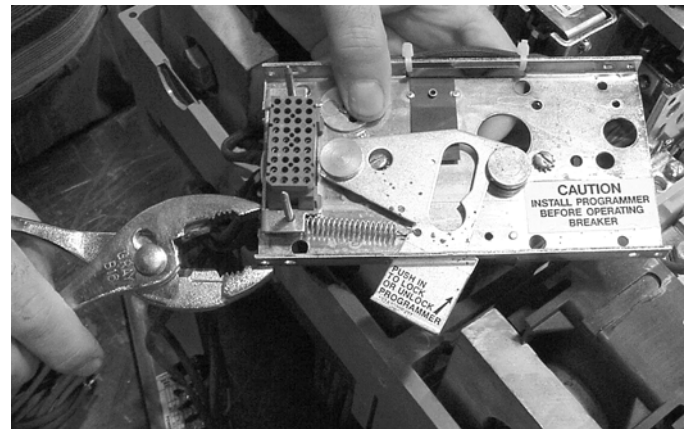

Figure 4. Bending the locking tabs to remove the large plug from the trip unit mounting plate.
9. Use pliers to bend the two locking tabs that secure the large plug to the trip unit mounting plate, as shown in Figure 4. Slide the plug off the mounting plate, then remove and save the plug mounting bracket.